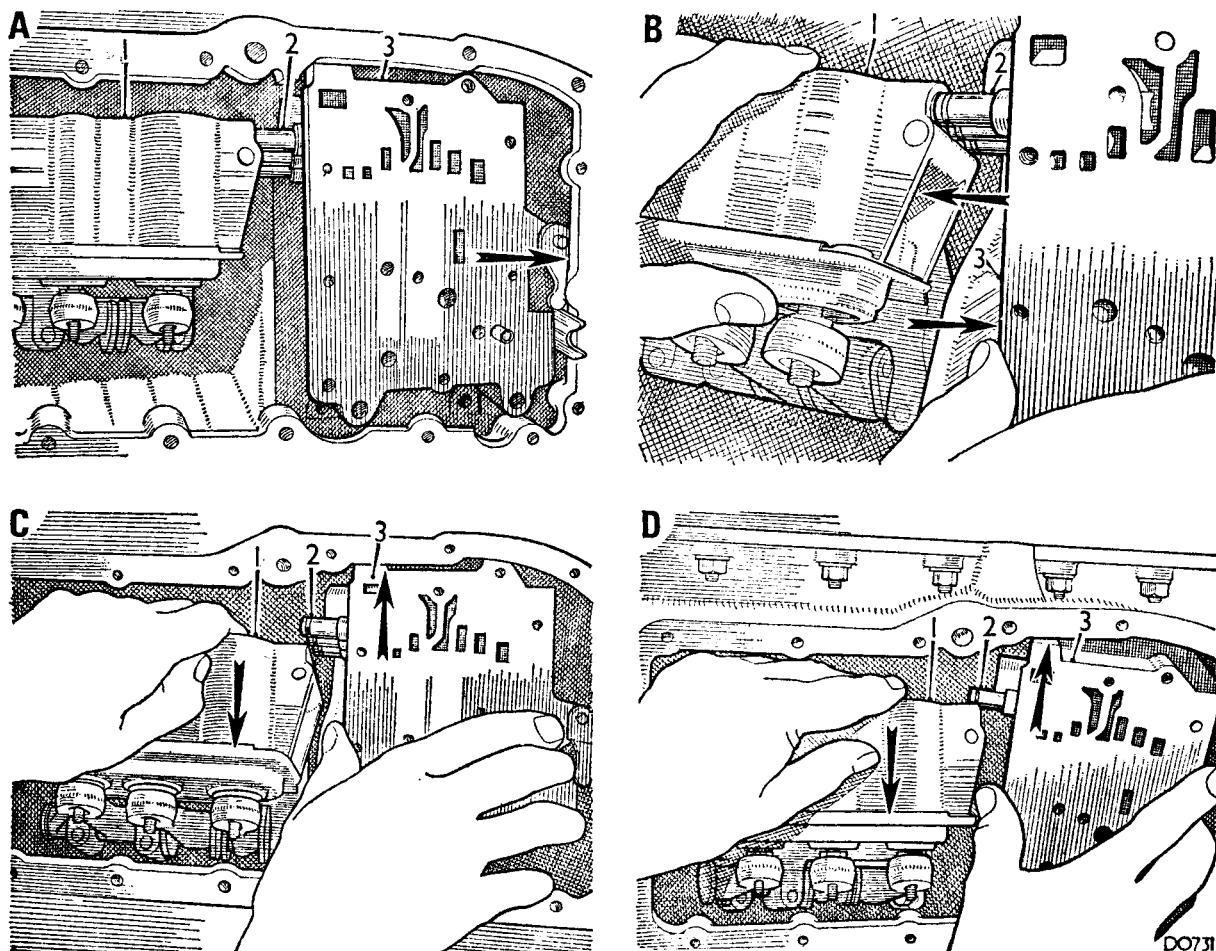

Fig. Fa.29
28. Remove the pipe chest as shown in the operation sequence in Fig. Fa.29 after pulling it outwards to release it from the connections and to disconnect the governor linkage.
29. Refer to Fig. Fa.29.